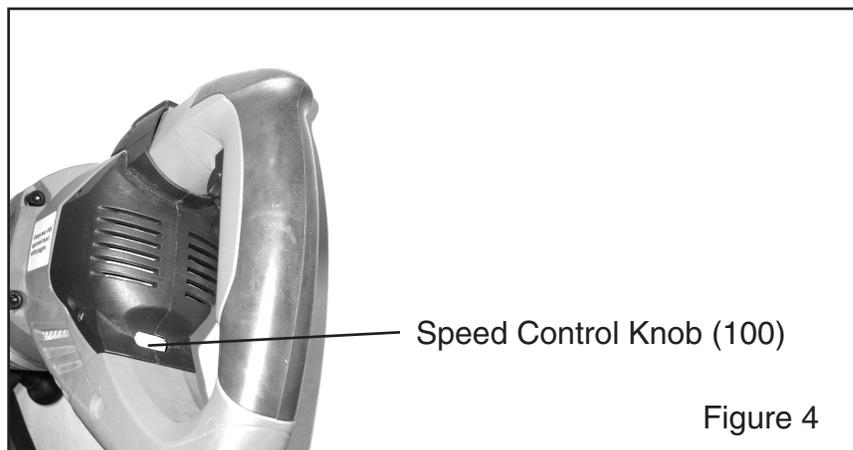

Figure 4
The Masonry Drill (118) speed is adjusted by turning the Speed Control Knob (100) See Figure 4. The higher the number the faster the Masonry Bit (118) will spin. The Rotary Hammer will automatically rotate and hammer once you attach the Masonry Bit (118).